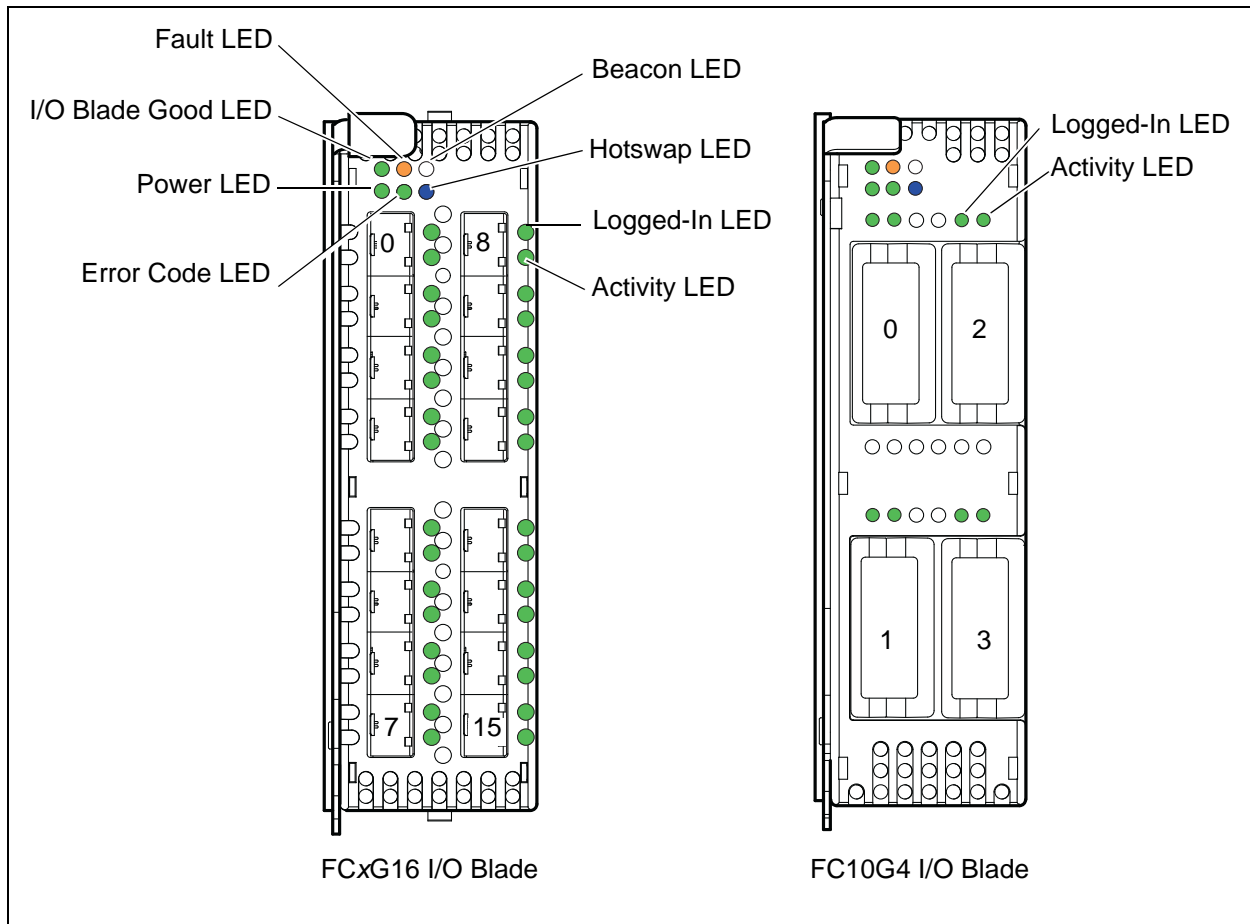

Figure 1-3 I/O Blades
Fibre Channel ports are numbered based on the blade ID as shown in Figure 1-3. For example, for I/O blade IO0 with blade type FC8G16 or FC4G16, ports are always numbered 0–15. IO1 ports would be numbered 16–31, and so on up to a maximum of 127. For I/O blade IO0 with blade type FC10G4, ports are always numbered 0–3. FC ports can also be identified by I/O blade and port number. For example, port 0 is also known as IO0-0. The ports configure themselves to communicate with devices and other switches.
Each I/O blade features a set of LEDs, Fibre Channel (FC) ports, and FC port LEDs as shown in Figure 1-3.